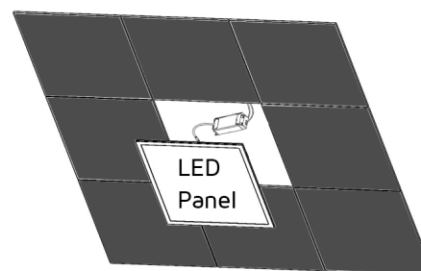

Fig.4a
**Step 4:** Move the LED Panel into the ceiling aperture and ensure the LED Panel is mounted securely, Fig.4a. Finally, turn on the mains supply to check the panel is working correctly, Fig.4b.